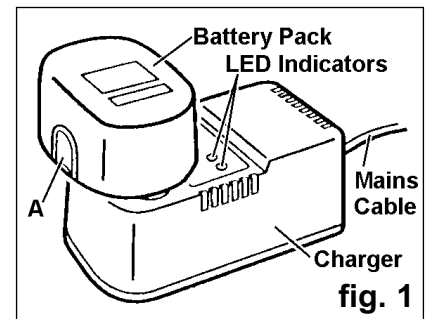

fig. 1
- 3.1.1. Remove the battery pack from the saw by depressing the two side clips (fig.1 item A). Do not touch the metal battery terminals.
- 3.1.4. The battery is designed to fit into the charger one way only. This is to ensure that the positive (+) and negative (-) polarities correspond. Align the + and - polarity marks on the base of the battery with the + and - marks on the charger, insert the battery and press very slightly downward to seat the battery firmly into the charging base (fig.1).